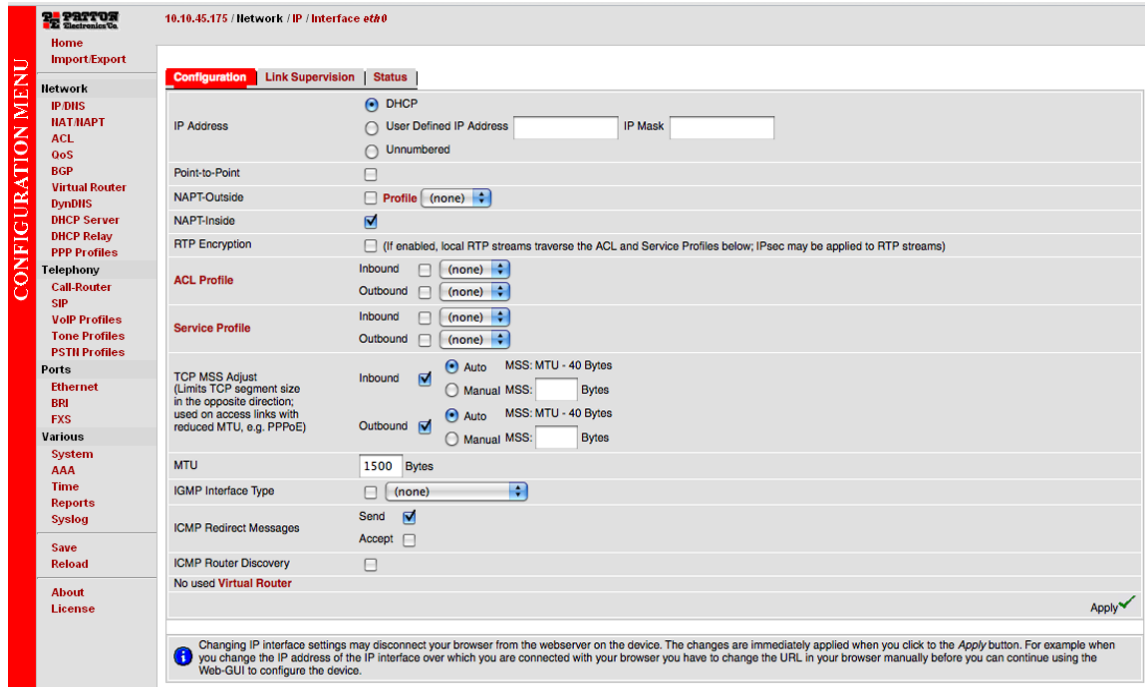

Figure 11. Ethernet Configuration page
1. In the configuration menu pane, click *IP/DNS*. In the *Interfaces* section, click on **eth0**. The Configuration screen for the Ethernet port displays (Figure 11).
The SmartNode supports two configuration options for the Ethernet connection (see Figure 11), as described in the following paragraphs: